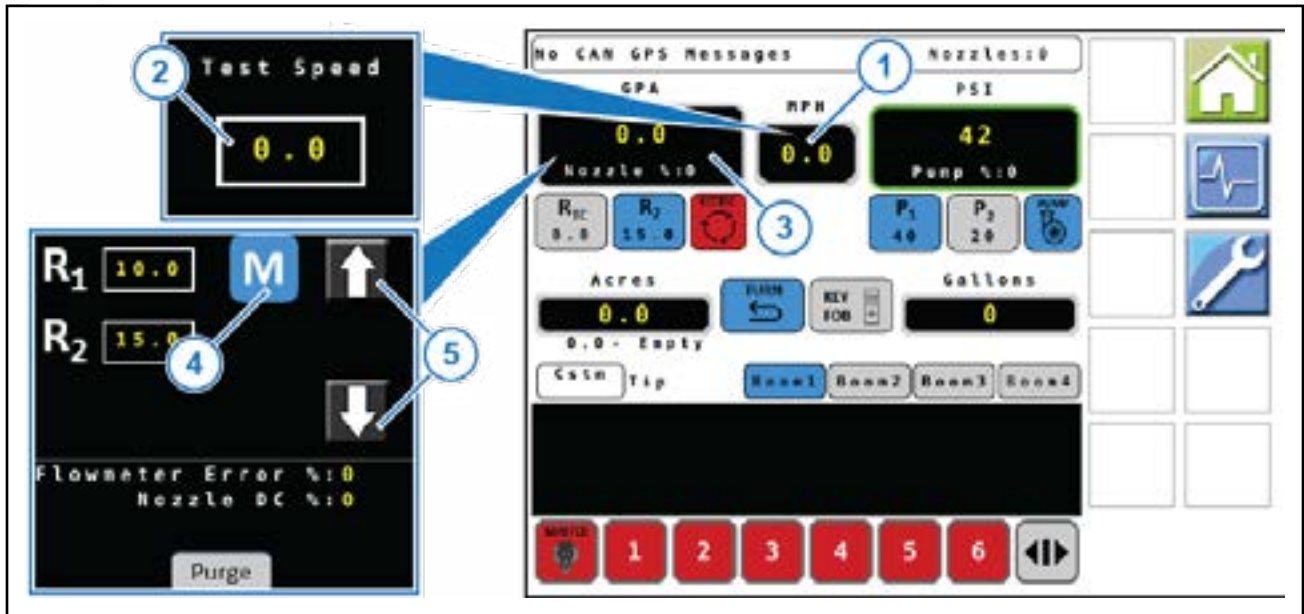

Figure 28: Boom Shutoff Dry Test
2. Select the speed box (Figure 28, Item 1).
3. Set a test speed (Figure 28, Item 2).
4. Select the rate box (Figure 28, Item 3).
5. Select M (Figure 28, Item 4) and then use the arrow icons (Figure 28, Item 5) to change the rate.